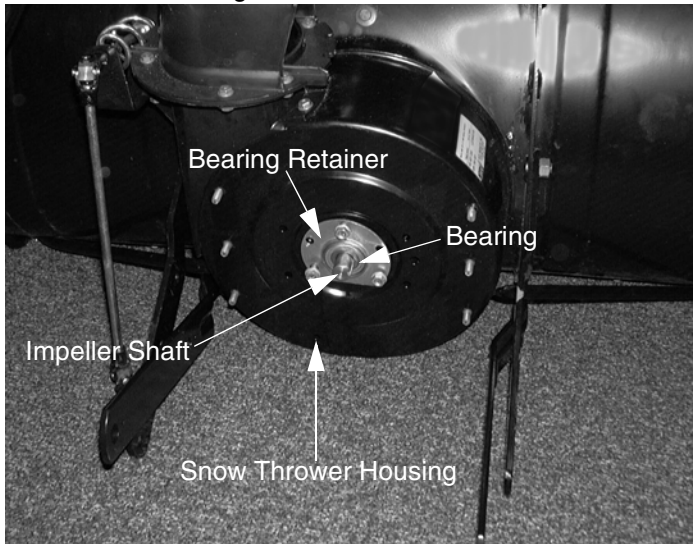

**Figure 13**
12. Use a 1/2 inch socket to remove the three Self Tapping Bolts and Bell Washers from each side of the Snow Thrower Housing. These secure the Bearing Cups (Figure 13) to the housing. See Figure 12.
13. Remove the Auger / Impeller Assembly from the snow thrower housing. See Figure 13.
14. Remove the Bearing Cup, Hex Bearing, and Flat Washer from each end of the Auger Shaft. See Figure 13.
15. Use a 1/2 inch wrench and socket to remove the shear bolts and nylock nuts which secure the Augers to the Auger Shaft. See Figure 13.
16. Remove the Auger and two remaining flat washers from each side of the Auger Shaft. Be sure the bushings do not fall out of the Augers. See Figure 13.
18. Install the two flat washers onto each side of the Auger Shaft of the new gear box assembly. See Figure 13.
19. Install the Augers onto the Auger Shaft. Be sure the bushings do not fall out of the Augers. Also make sure the Augers are oriented as shown. See Figure 13.
20. Secure the Augers to the shaft with the shear bolts and nylock nuts using a 1/2 inch wrench and socket. See Figure 13.
21. Install the Flat Washer, Hex Bearing, and Bearing Cup onto each side of the Auger Shaft. The flanges on the bearings go to the inside. See Figure 13.
24. Attach the Bearing Cups (Figure 13) to each side of the Snow Thrower Housing with three Self Tapping Bolts and Bell Washers per side. Tighten them finger tight only. Refer Back to Figure 12.
36. Use a 1/2 inch socket to tighten the three Self Tapping Bolts on each side of the Snow Thrower Housing which secure the Bearing Cups (Figure 13) for the auger shaft. See Figure 17.